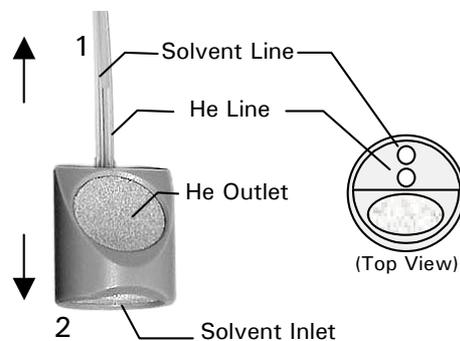

FIGURE 6-1. Sparging/Filter Frit
- b) Remove the old frit by pulling the tubing (item 1, FIGURE 6-1) off the filter body (item 2, FIGURE 6-1).